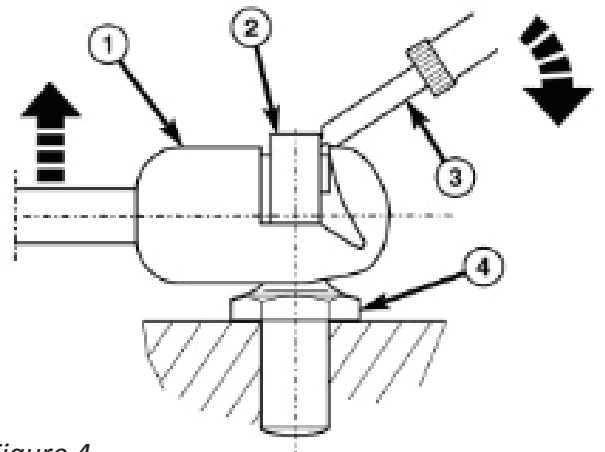

Figure 4
12. Using a small pick or screwdriver, pry out on the metal spring clip (Figure 4, #2). Pull the air spring head (Figure 4, #1) away from the ball stud (Figure 4, #4) while the spring clip is pulled away. Disconnect the air spring from the bracket only and leave attached to frame rail. Rotate forward out of the way.